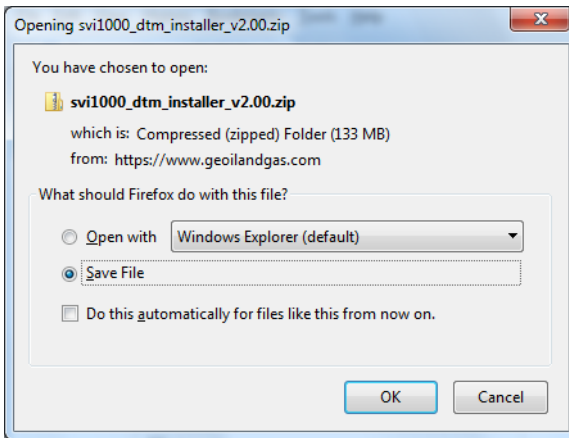

Figure 28 Opening Dialog
2. Select **Download** below *SVi1000 DTM* and Figure 28 appears.